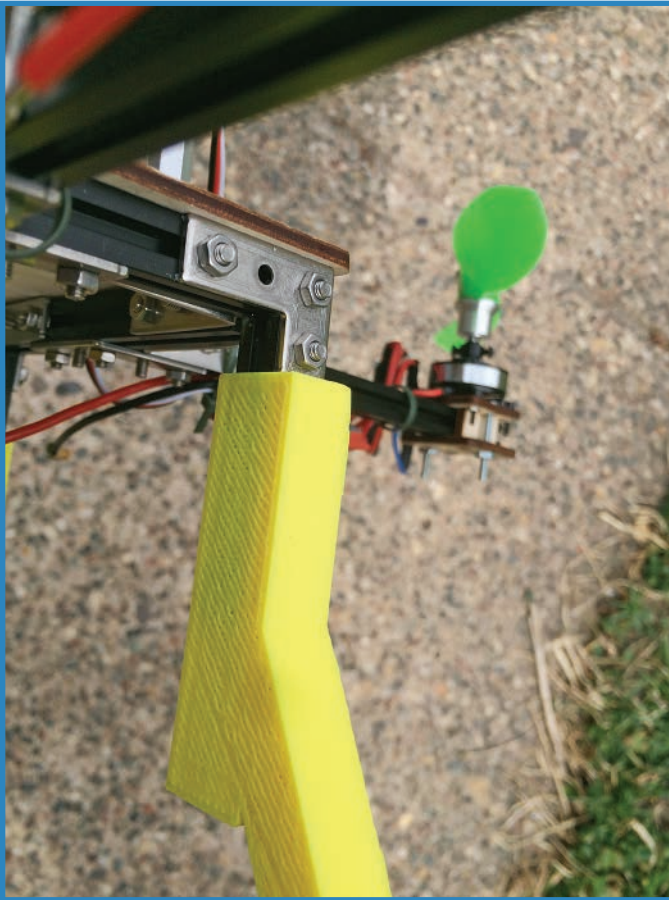

FIGURE 12.15 The 3D-printed legs slide on.
2. Once the legs are cleaned up (the inside might require a skinny file!), you'll be able to slide the 3D-printed part onto the MakerBeam legs, as shown in Figure 12.15. For me, the tolerances were so tight I could barely get them on, but if you find yours a little loose, use a hot glue gun to keep them from falling off. If all goes well, you should have a modest amount of clearance for the camera.